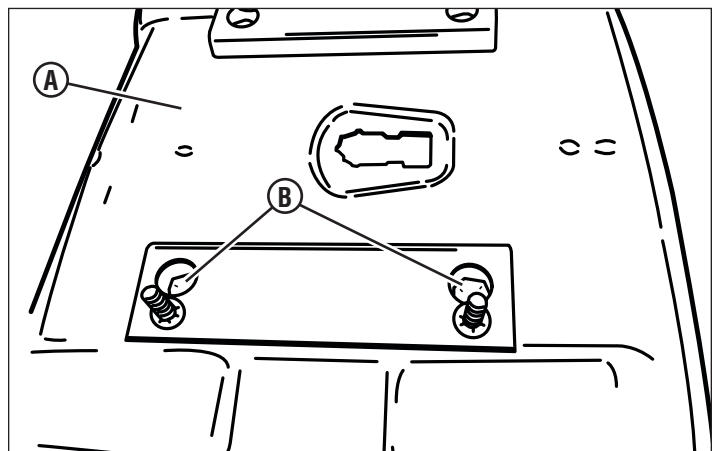

Figure 10
- B. Secure the seat brackets onto the bottom of the seat (A, Figure 10) with the self-tapping flange screws (B). Tighten securely. NOTE: Make sure the seat brackets are installed with the carriage bolts facing outward.